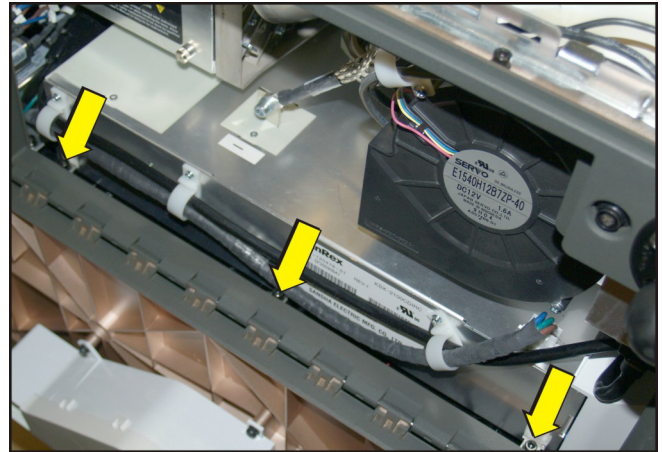

Figure 5-24 Remove LPS
6. Remove the five screws securing the LPS to the projector base. Three screws are located along the front edge of the LPS (**Figure 5-24**), another in the back-left corner and the front-right corner (not shown). **NOTE:** Close the lamp door to access the screws on the left-side.